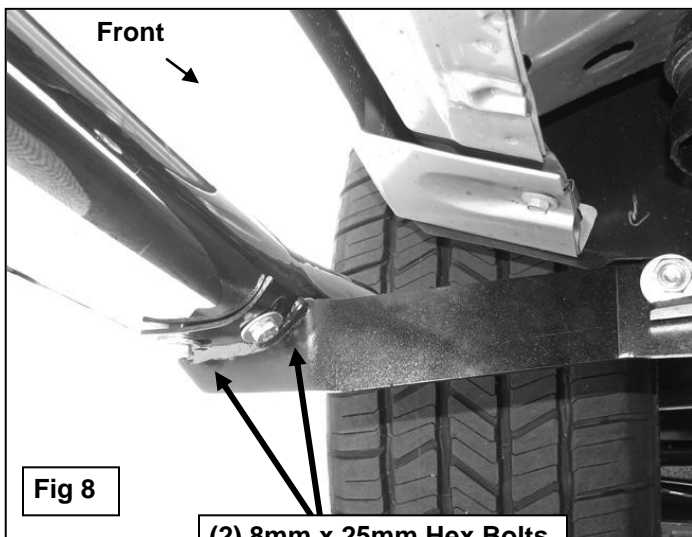

Fig 8
7. Carefully position the Driver Sidebar onto the Mounting Brackets. Attach the Sidebar to the Mounting Brackets with (6) 8mm x 25mm Hex Bolts, (6) 8mm Lock Washers and (6) 8mm Flat Washers, (Figure 8). Do not tighten hardware at this time.